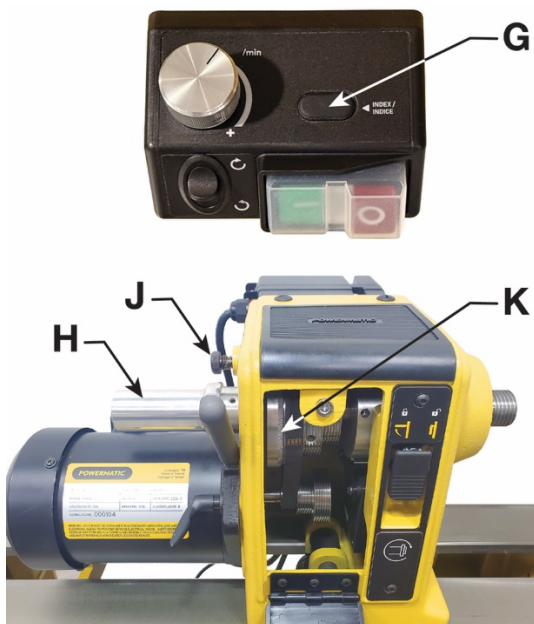

Figure 8-4: Indexer
a spindle blank with a router, while the spindle blank is secured between lathe centers. Numbers 1 through 24 are inscribed on top sheave (K, Figure 8-4) for reference. When lathe is powered, however, the LED display can be used for rapid locating of index positions, as follows.
2. Push index button (G, Figure 8-4). The LED display will change from RPM setting to index setting.
3. Use handwheel (H) to rotate workpiece to desired position.
4. Push in index pin (J, Figure 8-4) and rotate workpiece slightly until pin engages hole. Then screw index pin (J) further into headstock to lock spindle.
6. Push index button (G) to set engaged index position at zero.
7. Unscrew index pin (J) to release spindle, then rotate workpiece until next desired hole shows on readout.